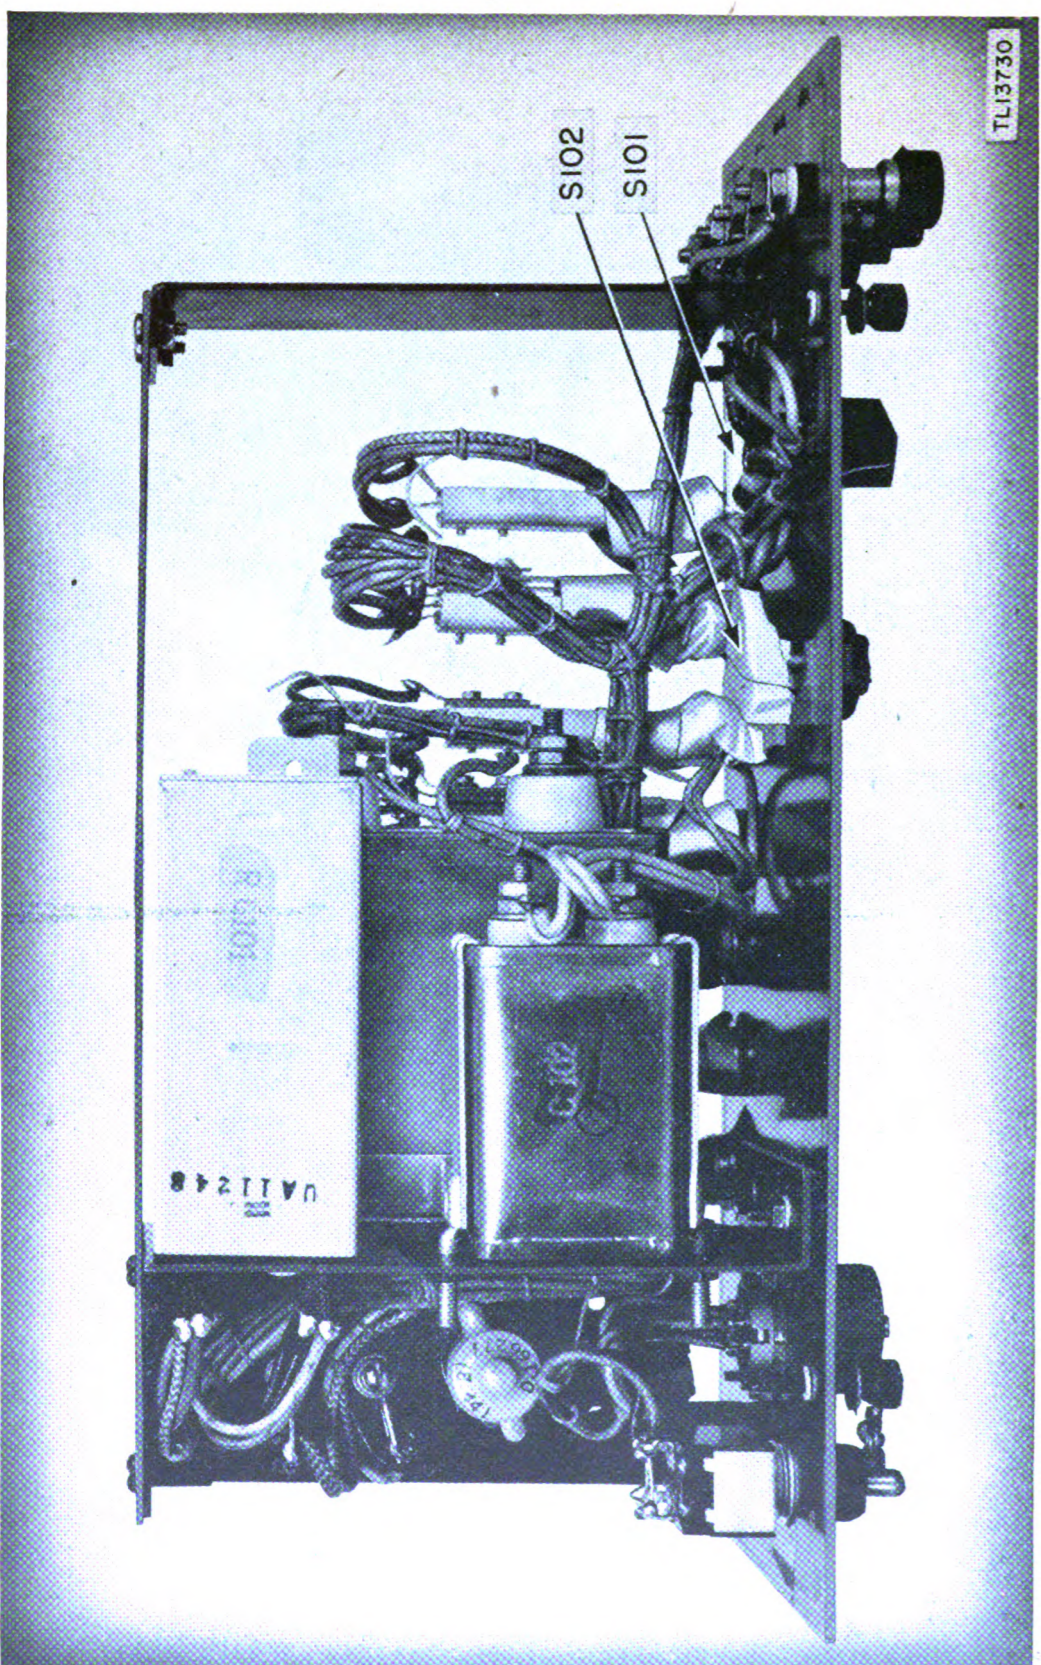

Figure 20. Application of masking tape to select switches of Remote Control Unit C-119/TK4-8.
- (2) Mask contacts of wafer switches S101 and S102. (See fig. 20.)
- (3) Tighten the four binding posts (LINE 1 and LINE 2) to prevent varnish from covering contact areas.